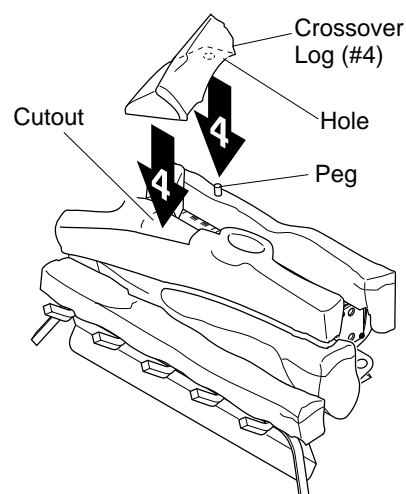

Figure 37 - Installing Crossover Log (#4)
4. Place the crossover log (#4) on the rear log and the middle log. Make sure the peg on the rear log is in the hole in the bottom of the crossover log. The crossover log should fit in the cutout of the middle log (see Figure 37).